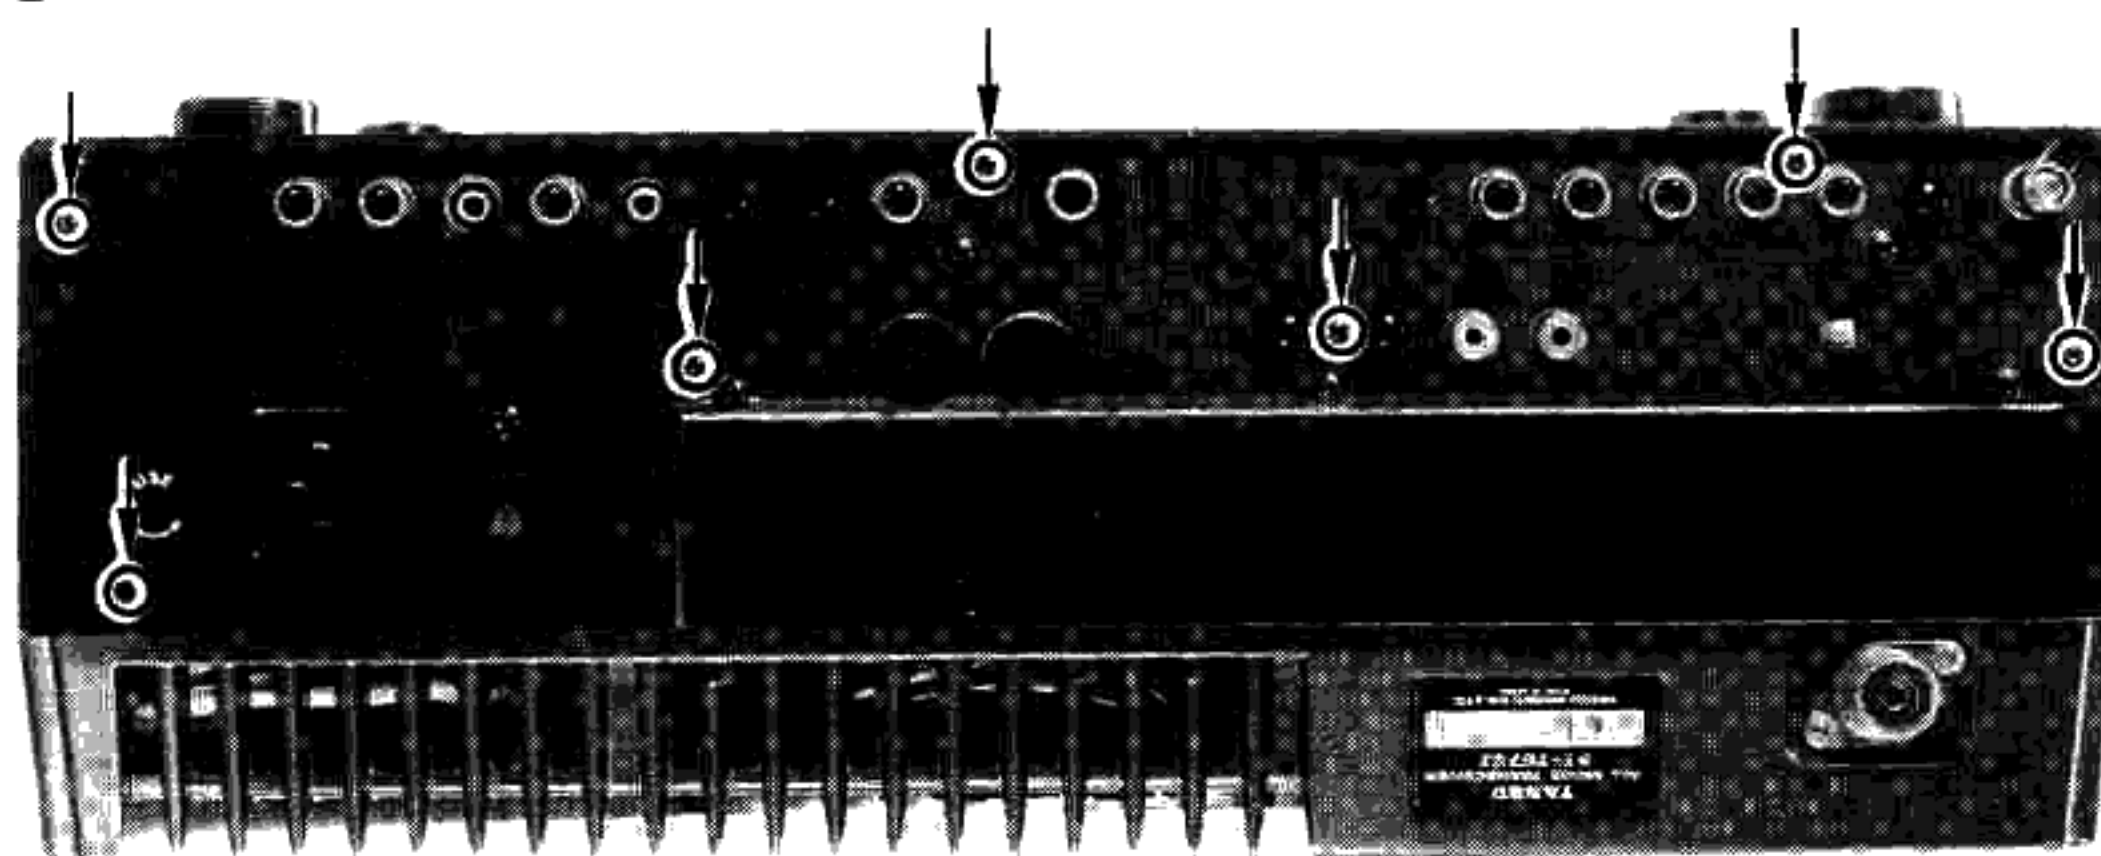

Figure 4
- (5) Referring to Figure 4, remove the 7 black painted screws from the rear panel. Then remove the (black) outer rear panel.